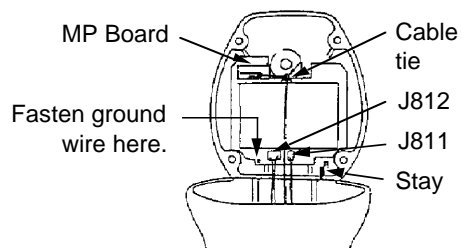

Figure 5-8 Antenna unit, cover opened
- 4) Open the scanner housing cover and fix the stay as shown in Figure 5-8.
- 5) One end of the cable with 15-, 9- and 7-way plugs has already been connected to RTB-9100 inside the scanner housing. Mate the 15- and 9- way plugs with jacks J812 and J811 on the transceiver module, respectively. Connect the 7-way plug to jack J701 on the MP Board. Secure the cable between RTB-9100 and J701 with the cable tie as shown in Figure 5-8.
- 6) Fasten the ground wire (black) of the signal cable to the chassis as shown in Figure 5-8.